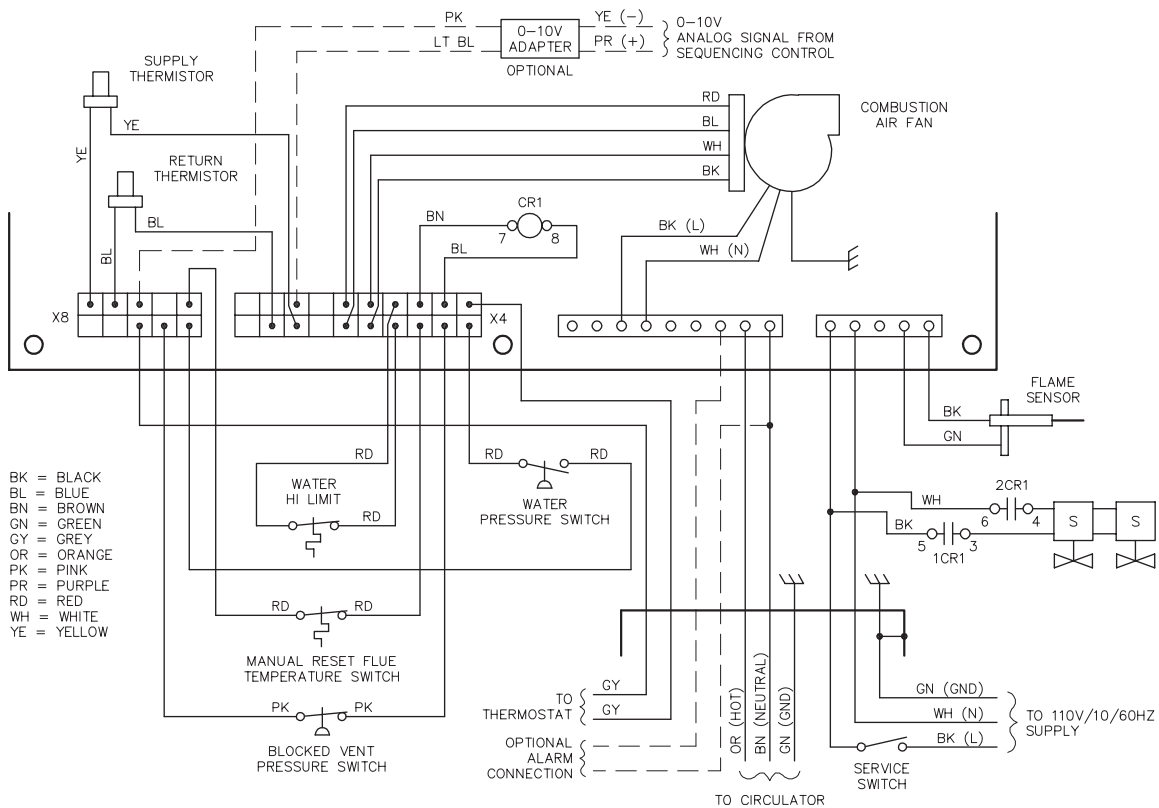

Figure 6.3: Boiler Control Board Wiring Schematic
9. The boiler control board and factory wiring are shown in figure 6.3.
12. Use the sequence of operation description and Figure 6.3, Control Board Wiring Schematic to follow light off and shutdown sequences and to assist in diagnosing problems. If the boiler does not function properly, consult Section 8, Troubleshooting.